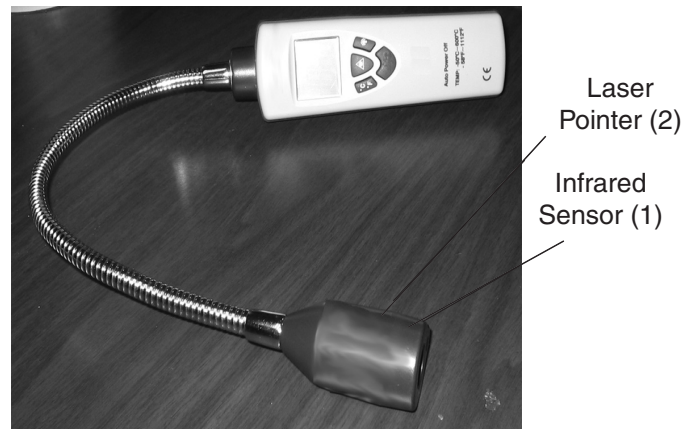

Figure 5
5. To show the backlighting, first press the Measuring Key (7) and then press the Backlight Key (6). Press the Laser Key (4) while pressing the Measuring Key (7) to turn the Laser Pointer (2) **ON** which will activate the Infrared Sensor (1). Press the Laser Key again to turn the Infrared Sensor (1) **OFF**. **See Figure 5.**
1. Hold the Thermometer in your hand, point the Laser Pointer (2) and Infrared Sensor (1) toward the object to be measured. The Thermometer will automatically compensate for temperature deviations from ambient temperature. **Note:** It will take up to 30 minutes to adjust to wide ambient temperature measurements, followed by high temperature measurements. Sometimes several minutes are required after the low or high temperature measurements are made; a cooling process must take place for the Infrared Sensor (1). **See Figure 5.**